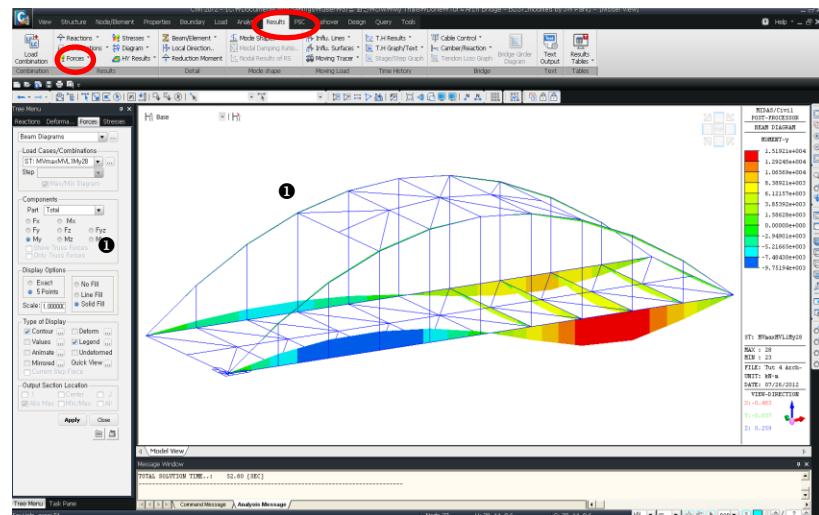

Figure 4.35 My beam diagrams for the live load converted into static load
1. Select  **Beam Diagram** in **Result > Force** (Figure 4.35 ①).